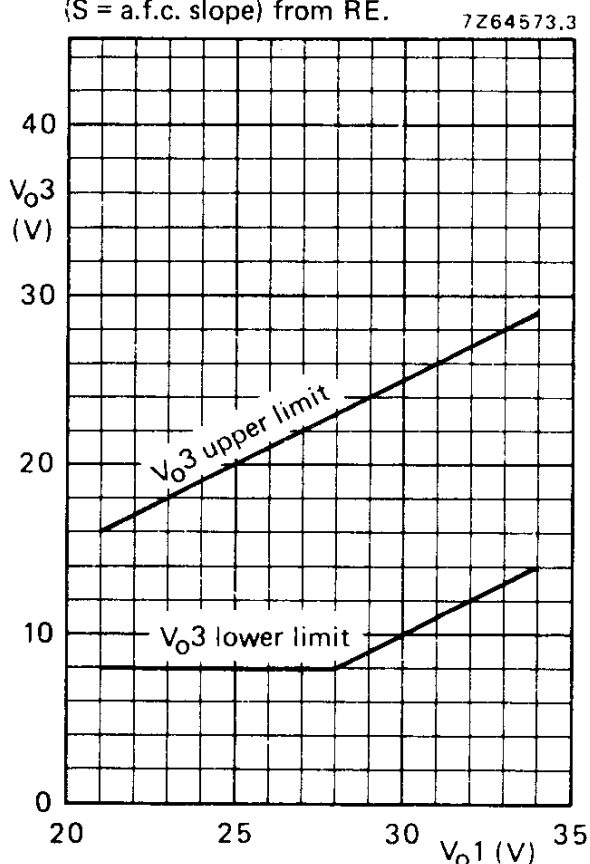

Fig. 7 Range of values for V_{03} .
12. V_{O3} depends on the value of V_{O1} (see Fig. 7); adjustable with RA_3 .